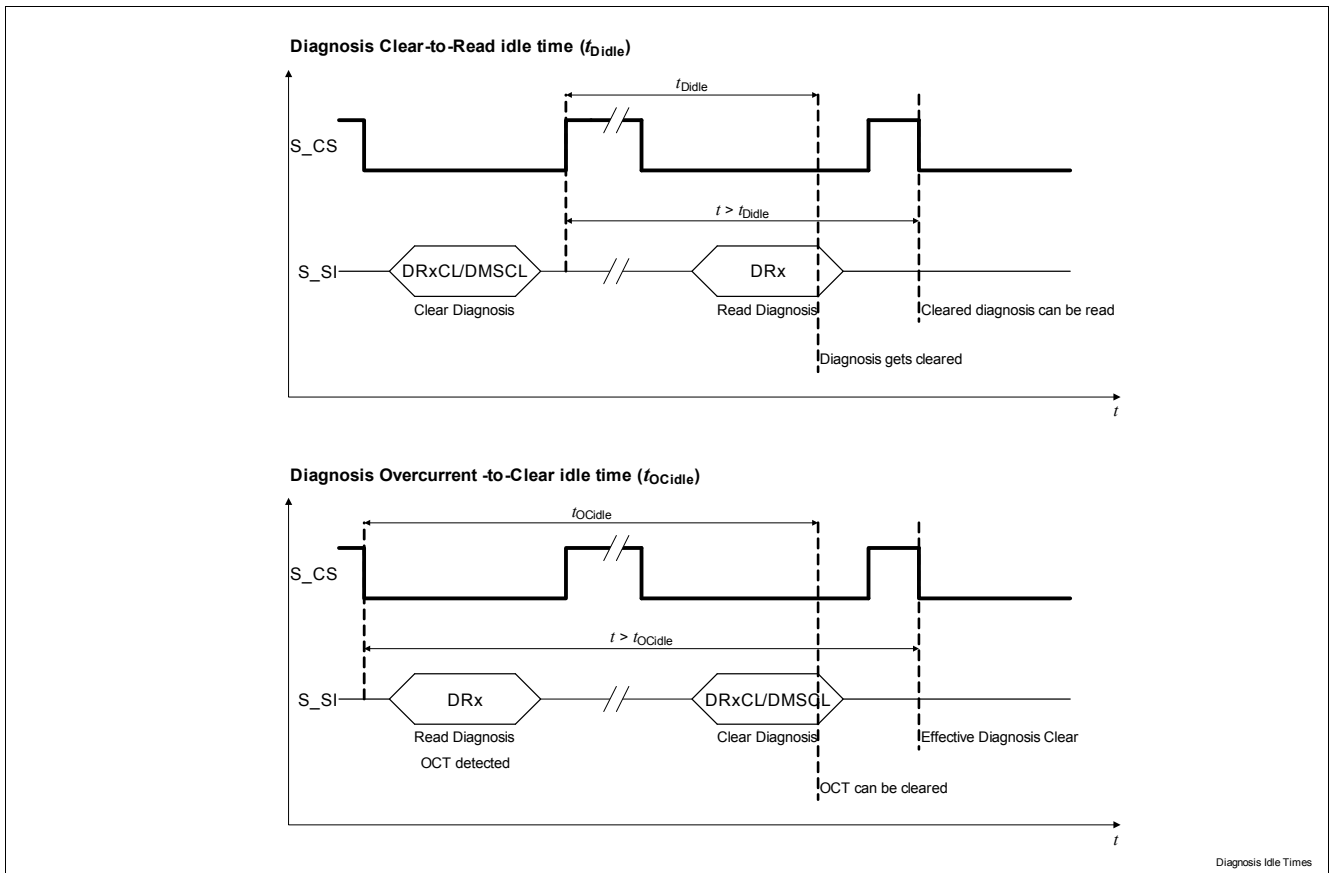

Figure 40 Diagnosis idle times
When issuing a Diagnosis Register Clear command (DRxCL or DMSCl), the idle time t_{DIdle} needs to elapse, from the CS low-to-high transition of the clear command, before the register content is effectively cleared (Figure 40); this time has to be taken into account when trying to read the Diagnosis register content after a clear, see Chapter 11.3 for t_{DIdle} definition.
After an overcurrent entry is stored in the diagnosis register (OC), the idle time t_{OCIdle} needs to elapse before a clear command can effectively clear the entry; if trying to clear the Diagnosis register after an OCT entry is read (Figure 40), this time has to be taken into account starting from the CS high-to-low transition of the previous read command, see Chapter 11.3 for t_{OCIdle} definition.